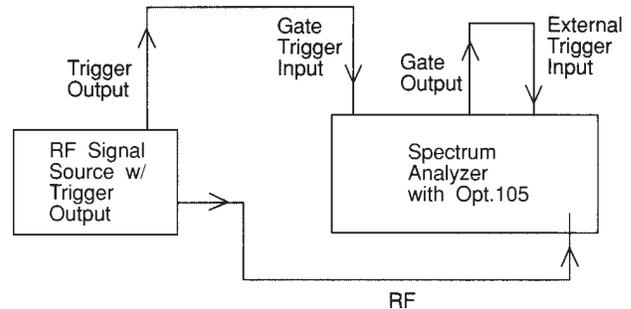

Figure B-5 Connection diagram for delayed zero-span measurement
- C. Connect trigger as shown in Figure B-5